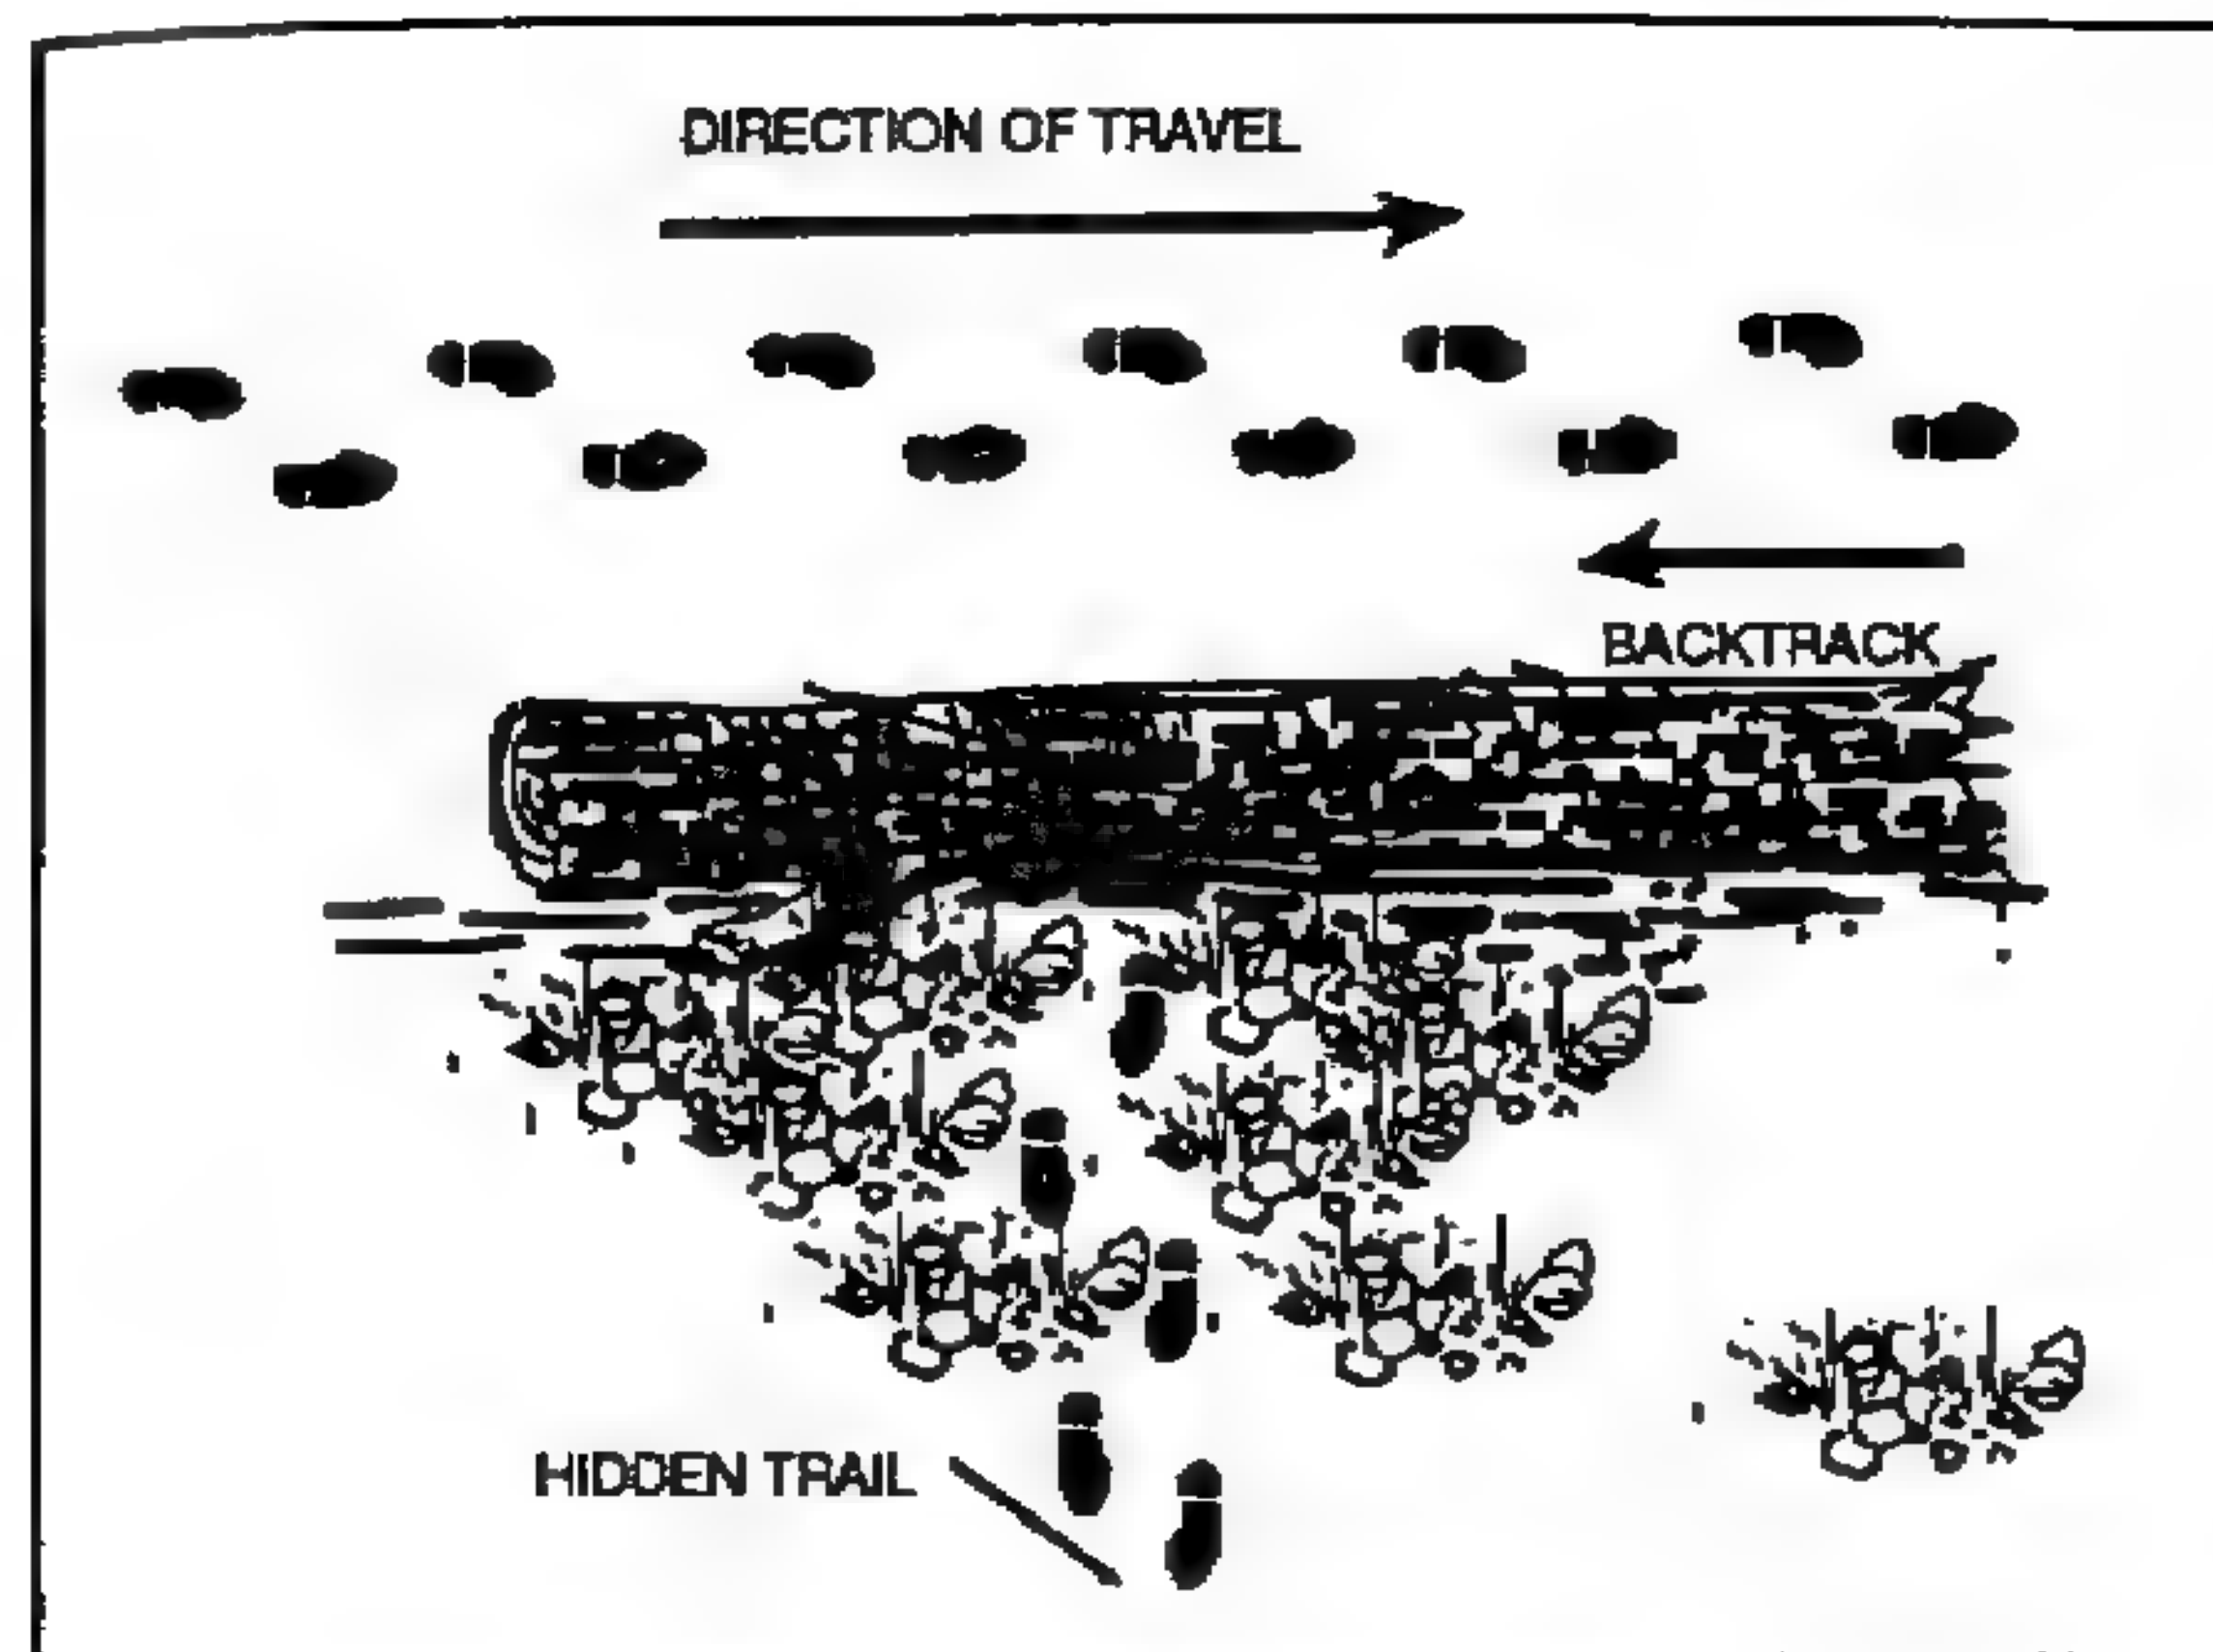

Figure 8-6. Walking backward.
a. **Backward Walking.** One of the basic techniques used is that of walking backward (Figure 8-6) in tracks already made, and then stepping off the trail onto terrain or objects that leave little sign. Skillful use of this maneuver causes the tracker to look in the wrong direction once he has lost the trail.